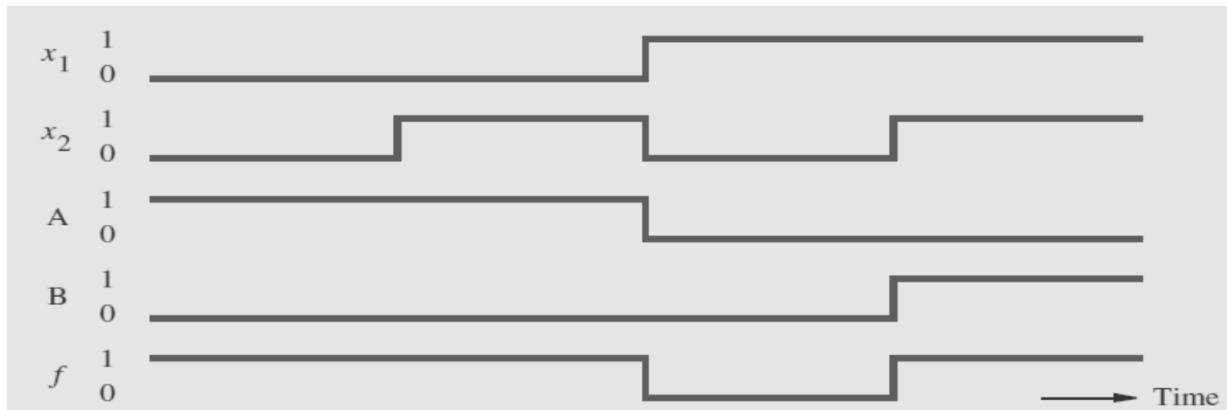

Figure 1.8
- The information in Fig. 1.7 can be presented in graphical form, known as a timing diagram, as shown in Fig. 1.8.